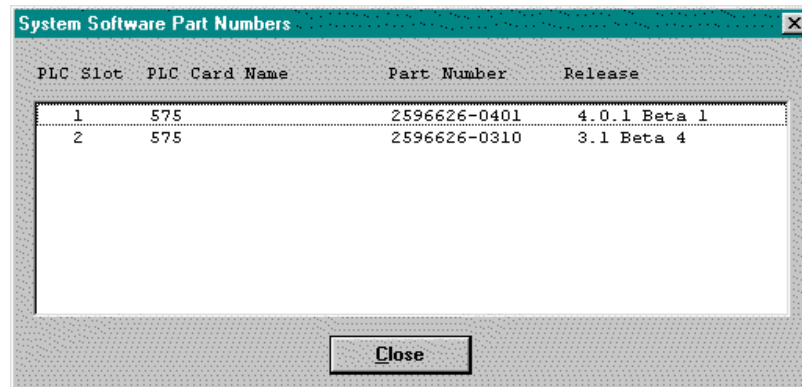

Figure 6.12b
1. Click System Part Number from the PLC Utilities menu (Alt+U, N). The System Part Number dialog box appears (Figure 6.12b). The part number and release for each card, along with the slot number and name of the card, displays as shown.